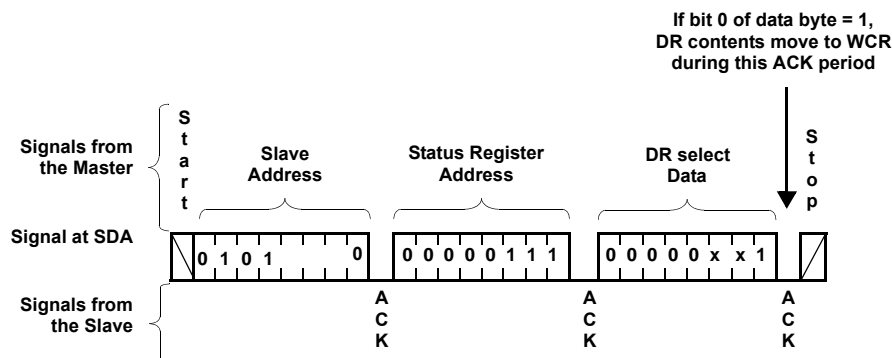

FIGURE 6. STATUS REGISTER WRITE (USES STANDARD BYTE WRITE SEQUENCE TO SET UP ACCESS TO A DATA REGISTER)
1. **Load the status register (using a write command) to select the row.** (See Figure 6.)